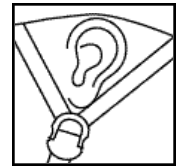

FIGURE 3
2. Put the helmet on and slide the straps through the adjusters until they are located in the correct position as indicated in Figure 3 above.
The front and rear straps should join at a point slightly below and in front of the ears. See Figure 3.